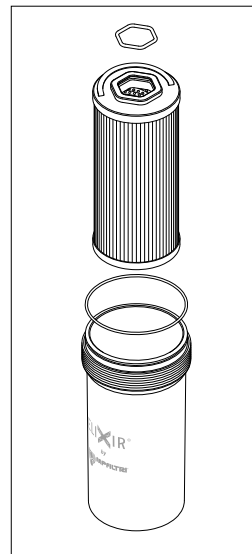

fig. 12
- (Fig. 12) Fit the O-ring in the bowl groove, insert the Hex-ring in the filter element cap